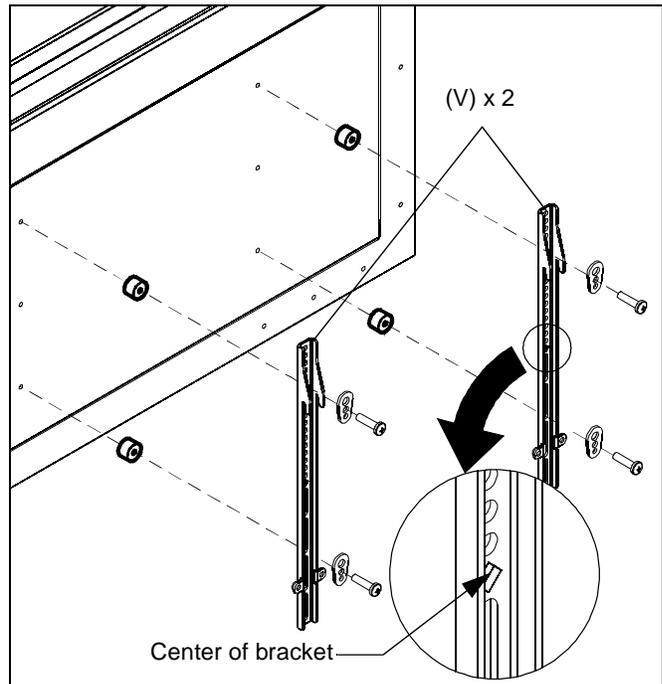

Figure 29
1. Align the center of the interface bracket (V) with center of screen. (See Figure 29)
2. Select correct screws, spacers (if necessary) and universal washers from the hardware bag (A-N) and attach brackets (V) to back of display. (See Figure 29)